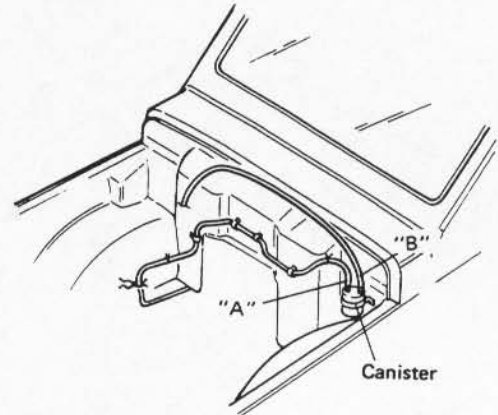

Fig. 5-2-13
- 1) Disconnect hose (A & B) from charcoal canister, which is located in engine compartment (Fig. 5-2-13 shows right hand vehicle).